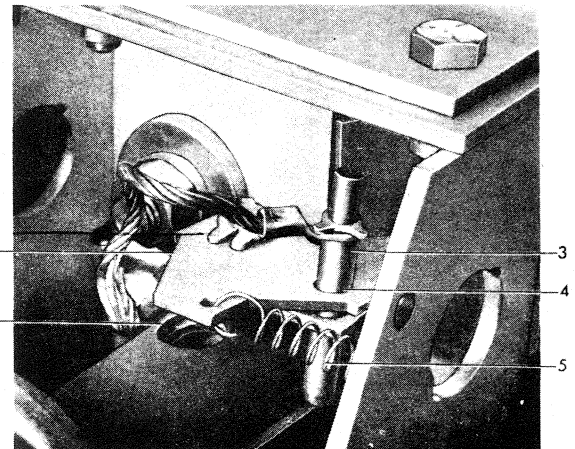
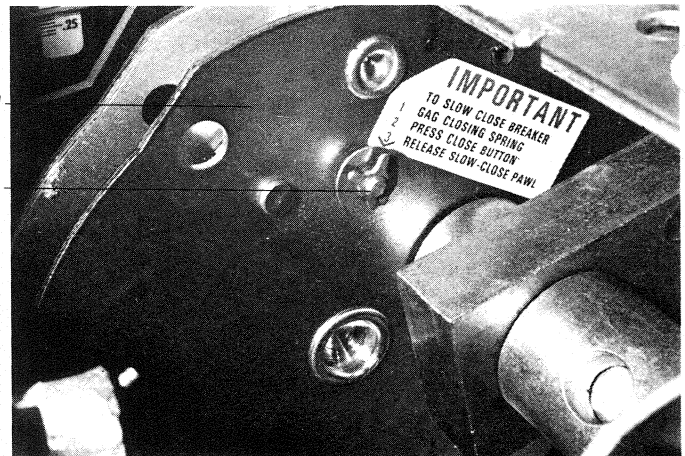

Fig. 10 Closing Spring Gag Interlock
Fig. 11 Slow Close Pin On Flywheel
The closing spring gag interlock is provided on the breaker to prevent a breaker that has a gagged closing spring from entering the metalclad unit. This is accomplished by projecting a lever, (1) Fig. 10, out of the left side of the mechanism when the closing spring is gagged.
- (2) Insert the close spring blocking pin, (3) Fig. 10, by carefully removing it from its storage hole, rotating the interlock lever and inserting it in the blocking hole.
- (3) **CAUTION:** If the manual close button is not pressed prior to performing step 4, the breaker will be damaged **PRESS THE MANUAL CLOSE BUTTON TO PARTIALLY DISCHARGE THE CLOSING SPRING AGAINST THE BLOCKING PIN.**
- (4) Pull the slow close pin on the flywheel, (2) Fig. 11, and resume ratchet wrench operation of the manual wind shaft. After several rotations at no apparent load, the winding mechanism will engage the slow close pawl and begin the closing operation of the mechanism.